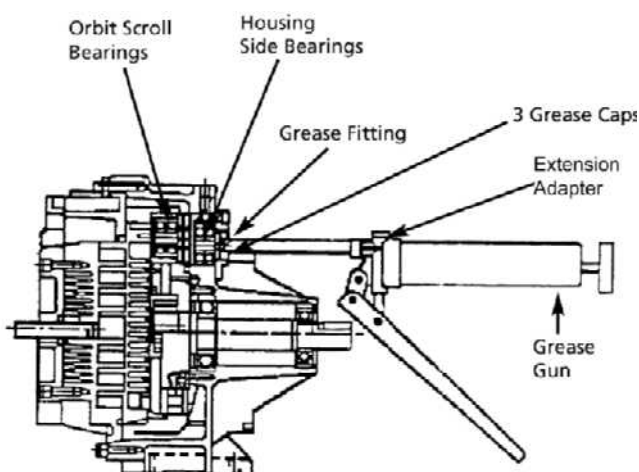

Figure 13. Greasing the Pin Crank Bearings.
- Remove the three grease caps (see Figure 13).
- Grease all three pin crank bearings using the grease gun and the extension adapter or the needle adapter as required. Refer to Figures 13, 14 and 15. The housing side bearing requires use of the needle adapter for greasing. Pump the grease gun five (5) times for new compressors and three (3) times for existing compressors. Each pump of the grease gun equals 0.65 grams of grease.